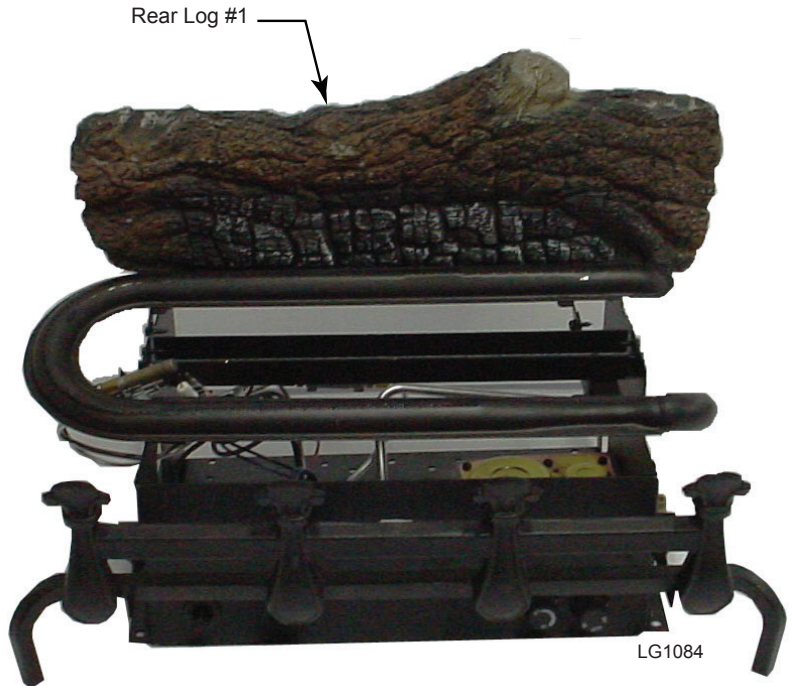

Figure 17
1. Place Rear Log (#1) on rear support. *Figure 17.*